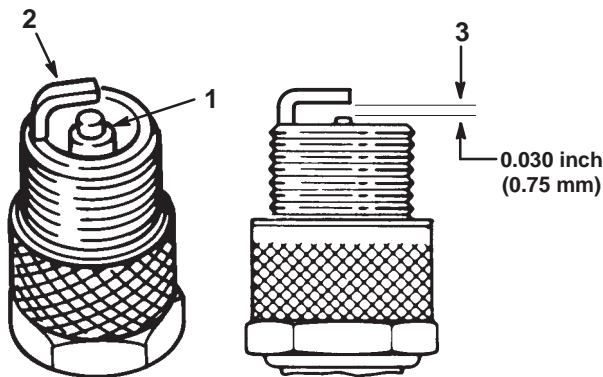

Figure 37
1. Look at the center of the spark plugs (Fig. 37). If you see light brown or gray on the insulator, the engine is operating properly. A black coating on the insulator usually means that the air cleaner is dirty.
2. Check the gap between the center and side electrodes (Fig. 37). Bend the side electrode (Fig. 37) if the gap is not correct.